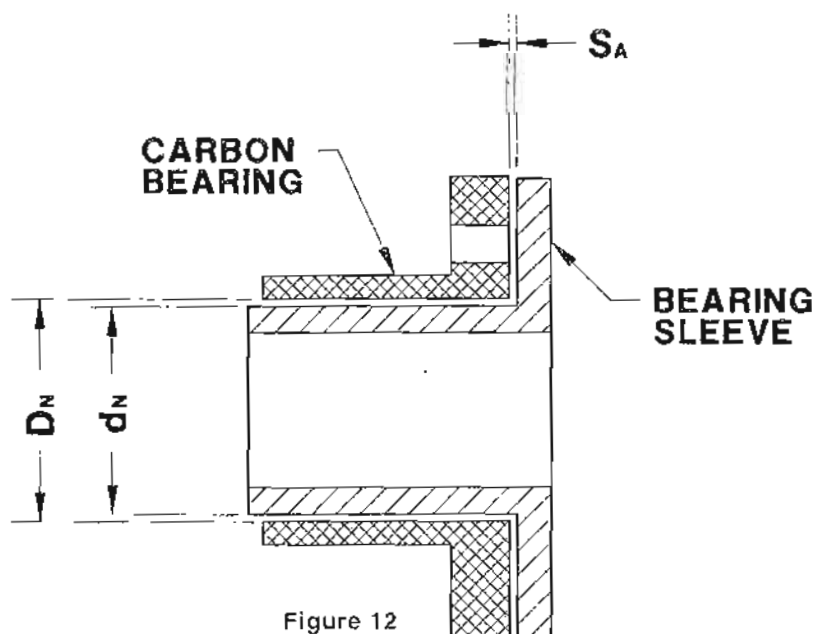

Figure 12
6. Measure front and rear carbon bearing and bearing sleeve diameters, see Figure 12. If difference between diameters  $D_N$  and  $d_N$  exceed Maximum Bearing Clearance ( $S_{N\text{ MAX}}$ ) in Table 11 then replace bearings and sleeves.
8. Visually check stator lining, "can" (816) for scratches, gouges, and dents. If stator lining is damaged, return to the factory or qualified motor repair shop for replacement.